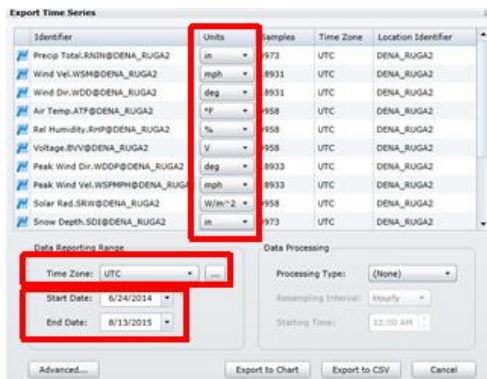

Figure SOP 11-27. Export Time Series options.
- In the pop-up window, select Save CSV File... (Figure SOP 11-27).